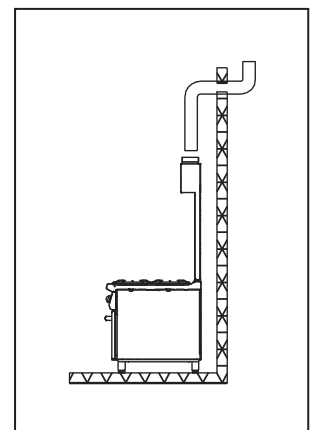

Fig. 15
- *Natural evacuation (fig.15).*